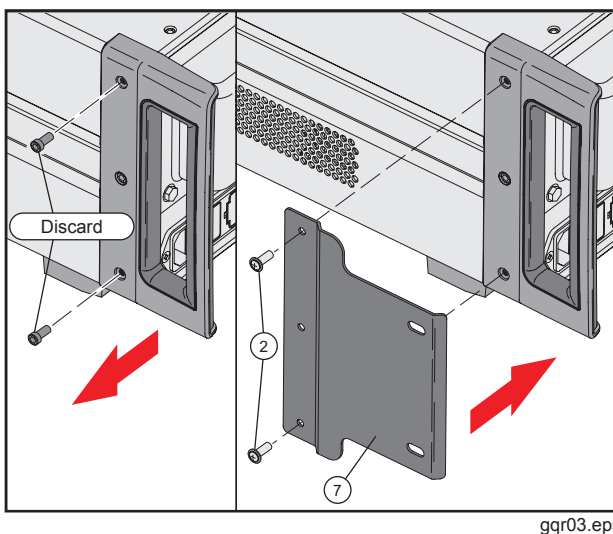

Figure 4. How to Install the Rear Brackets
1. Use the Allen Hex Key Wrench supplied in this kit to remove the top and bottom attachment screws on the left and right rear handles as shown in Figure 4.
2. Install the Rear Attachment Brackets on the rear left and right handles with two #8-32 x 1/2" Pan-head Phillips Screws as shown in Figure 4.